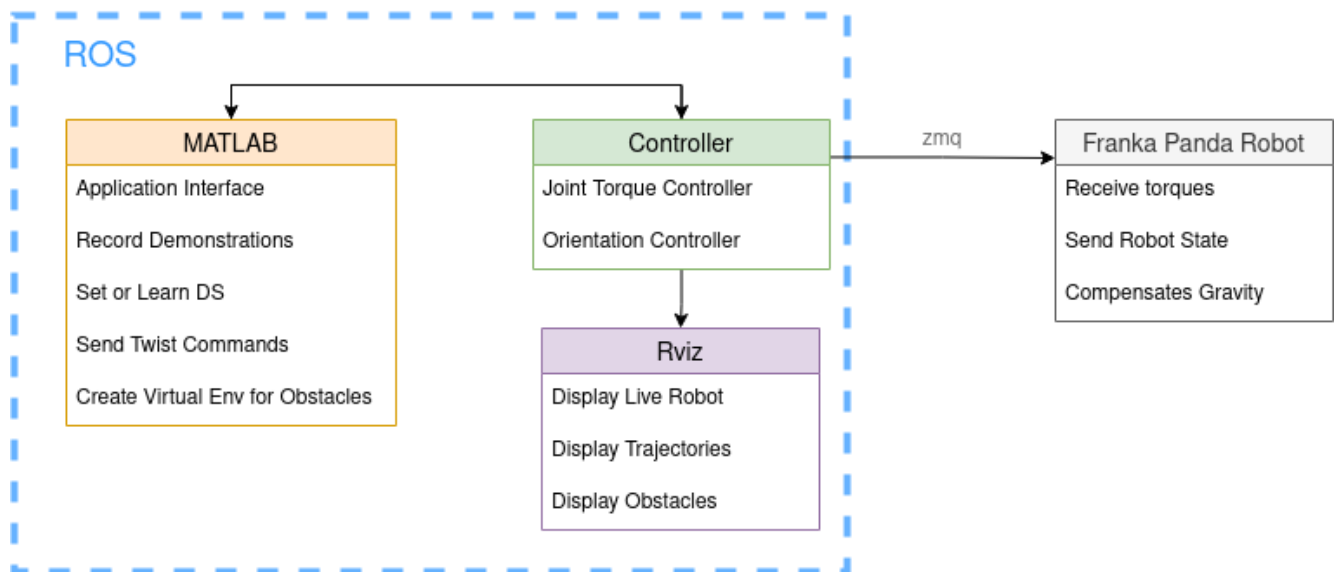

Figure 1: Software Structure
- To use the GUI correctly you must first select the interface window, called Figure 1. Make sure your last mouse click was inside this window before using the keyboard.